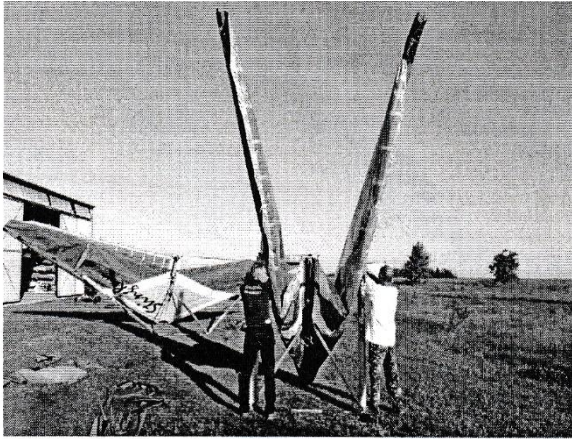

Figure 13
10. Carefully spread the wings all the way, lowering the nose of the wing on the ground. Once the nose of the wing is on the ground the wings spread themselves (fig. 13). You will need an assistant to perform this procedure.